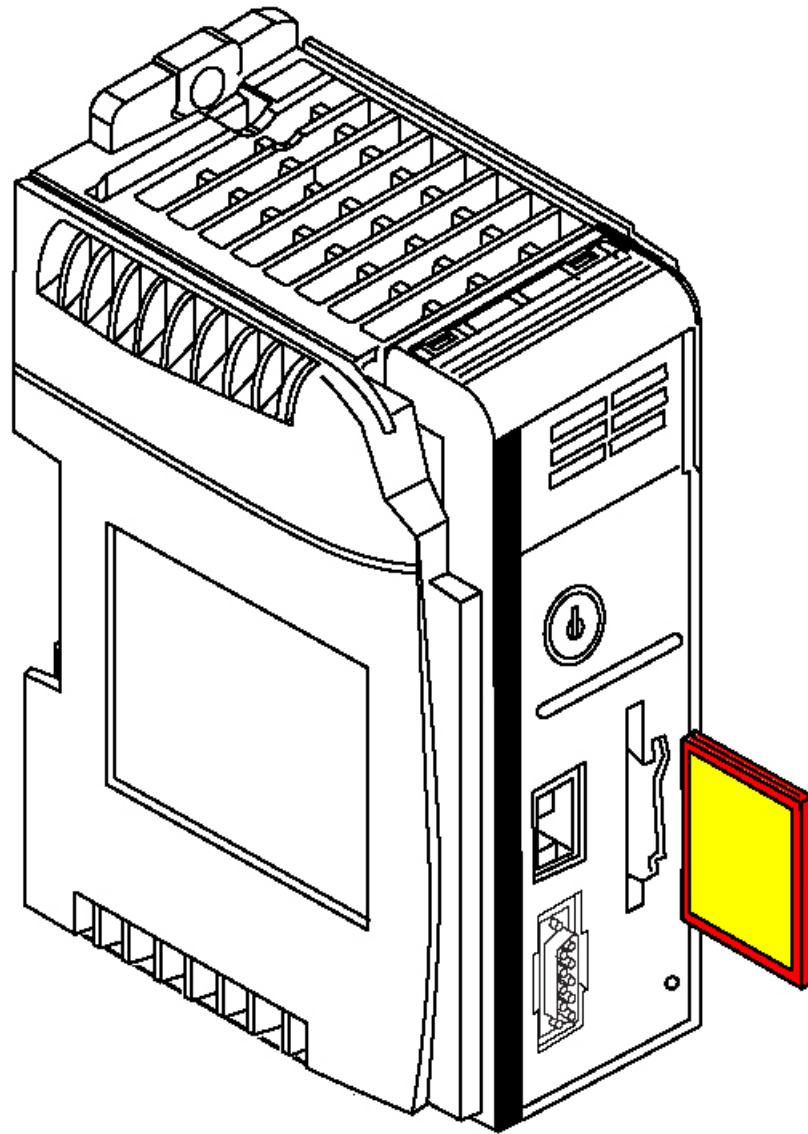

Fig 5
3. Remove existing compact flash card from the PLC CPU by pressing the retaining clip to the right and pulling the compact flash card straight out (*Fig 5*).